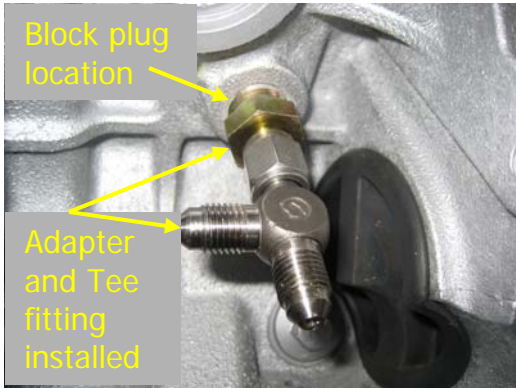

Fig.11
- b. Coolant Supply: Remove the plug on the block (driver’s side rear). Trapped coolant in the block will drain out. Apply thread sealant to the adapter and install as shown. Tighten to 25Nm (20lb-ft). Now fit the Tee swivel fitting and position the fitting as shown (Fig. 11) and torque to 25Nm (20 lb-ft).